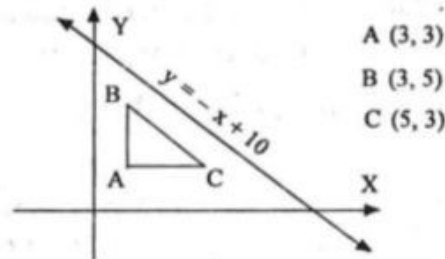

Fig. Q. 3a
3. (a) A triangle shown in fig. Q. 3a is to be reflected about the line $y = -x + 10$. Find the transformation matrix and the new vertices of triangle. 8